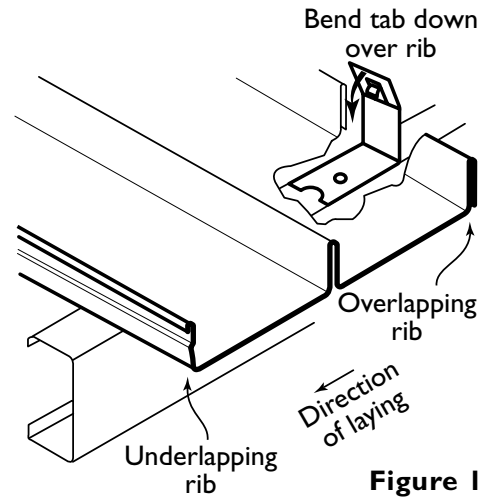

Figure 1
1. Locate the first sheet over the fixed clips (Figure 1).